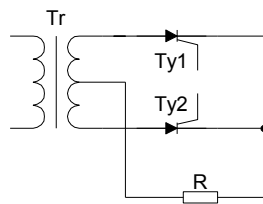

Fig. 18.2
18.3.1 Controllable full-wave thyristor rectifier basic tests. The rectifier is supplied by transformer with sectional secondary winding. The load has a pure resistive character – resistive load (R). The scheme is shown in Fig. 18.2.